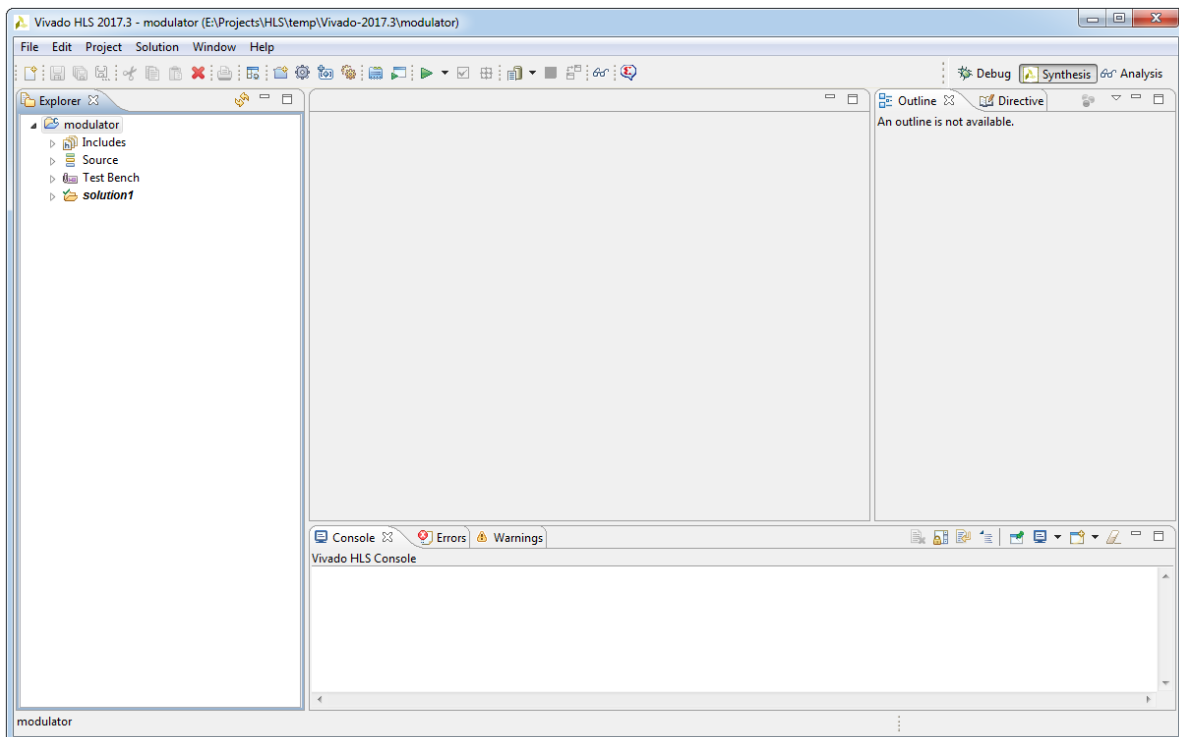

Figure 2.12: Vivado HLS Project
11. In the **Solution Configuration** dialog box, click **Finish** to open the created Vivado HLS project, see Figure 2.12.
After we finished with the new project creation, in a few seconds Vivado HLS project will appear, see Figure 2.12.